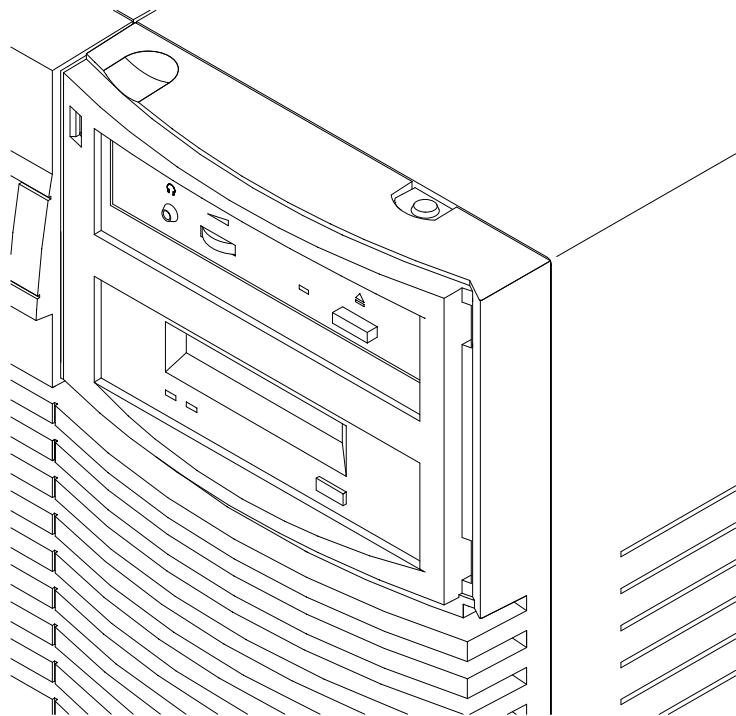

Figure 6-4. Disc Tray Closed
- 5.** Gently push the disc tray in until it is closed, as shown in Figure 6-4.